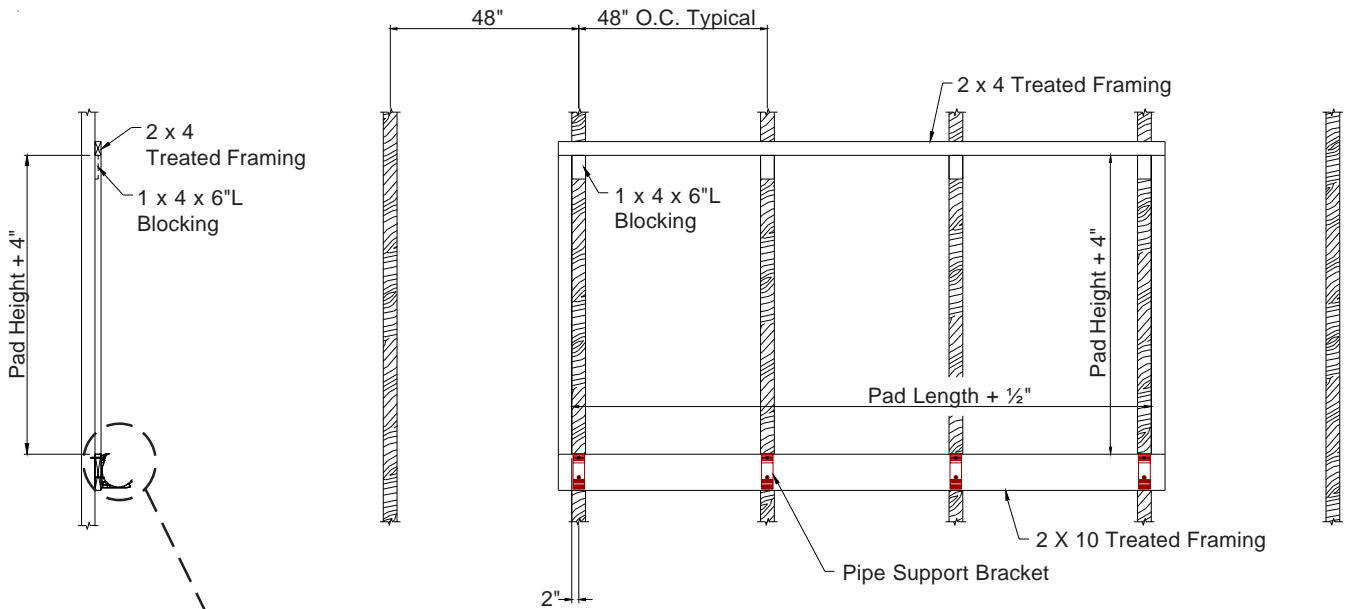

Figure 4A
- 4) At the bottom framing fasten the pipe support bracket to the 2 x 10 at each post (stud) according to the proper spacing on **Chart A**. Make sure the lip of the pipe support bracket hangs on the top of the 2 x 10. The top hole of the pipe support bracket should be secured with a $\frac{3}{8}$ " x $3\frac{1}{2}$ " Lag screw (provided). Pre-drill framing for $\frac{3}{8}$ " Lag screws using $\frac{1}{4}$ " drill bit. The bottom hole should be fastened with a #14 x $1\frac{1}{2}$ " Lag screw (provided). **See Figure 4A, 4B and 4C**. If framing does not match Figure 4A, framing must be capable of supporting 300 lbs. per bracket.